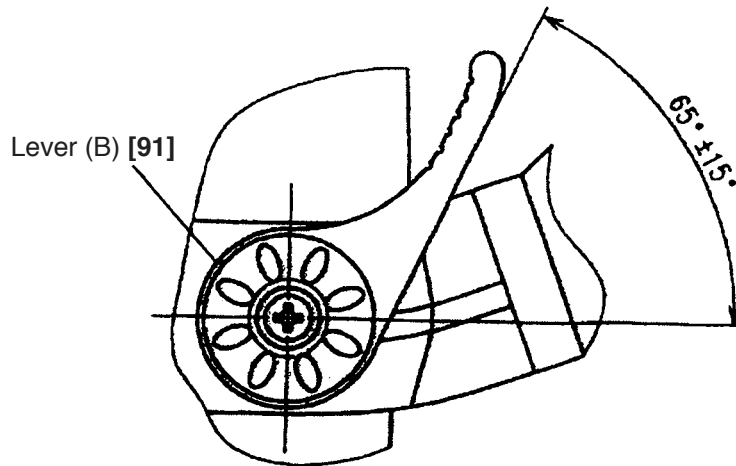

Fig. 13
Mount Base (B) [97] and the Housing Holder [73]. Push the Lock Screw [90] in as far as it will go. Hook the Lock Spring [89] on both the Housing Holder [73] and Lever (B) [91]. Being careful not to loosen the Lock Screw [90], turn Lever (B) [91]. When Lever (B) [91] is positioned as shown in Fig. 13, insert the Lock Screw [90] into Lever (B) [91] and secure them with the Machine Screw (W/Washers) M4 x 12 (Black) [81].